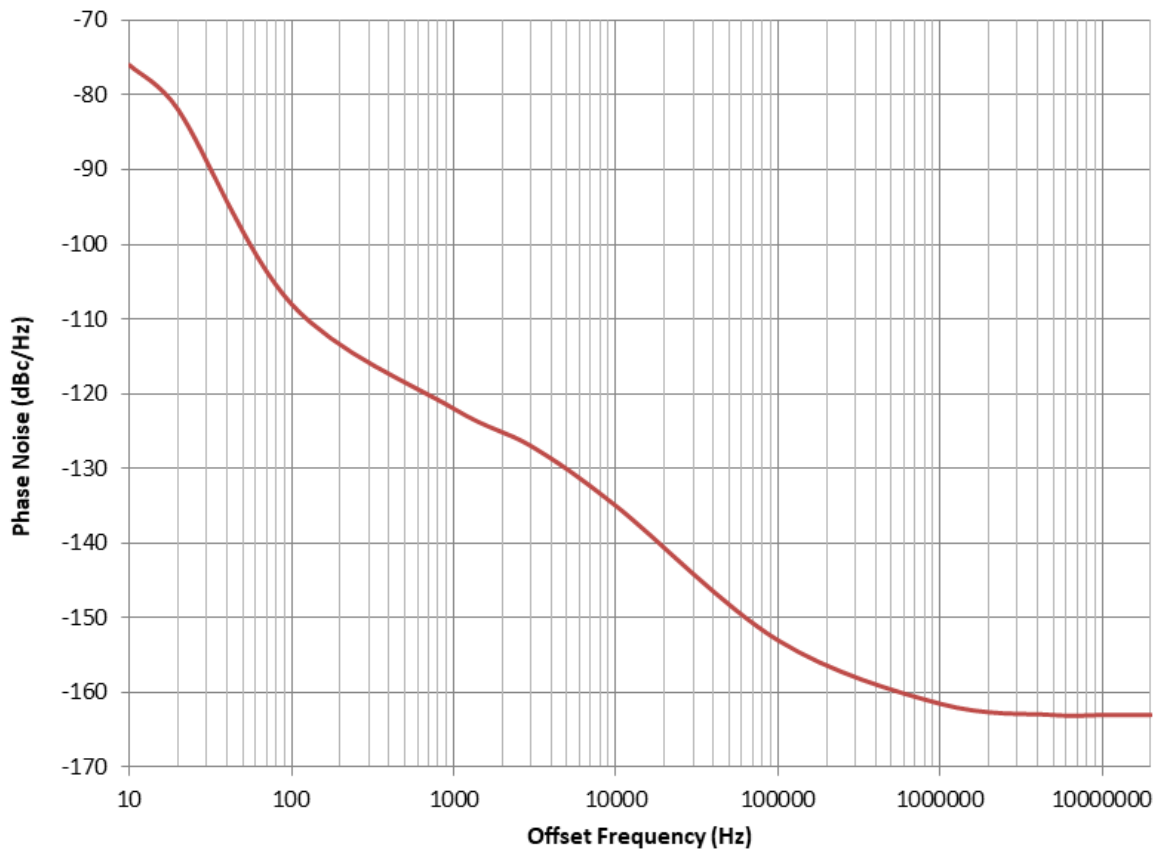

Figure 3. 156.25-MHz Output Phase Noise From LMK05318 With DPLL BW of 10 Hz, TCXO of 19.2 MHz and Reference Input of 25 MHz
- The DPLL with a loop bandwidth of less than 10 Hz can be used to clean wander on the reference input clock when used with a TCXO or OCXO as reference to the APLLs. With a loop bandwidth of greater than 10 Hz, the reference input clock jitter can be cleaned with an XO as reference to the APLLs. The advantage of this configuration is the ability to clean excessive wander or low-frequency noise present on the reference input clock. In addition, if there is a phase noise requirement for the low offset frequencies, this mode of jitter cleaning with the DPLL provides lowest possible in-band phase noise. In this mode, APLL2 can also be utilized to generate free-run clocks with low jitter or can be locked to the divided clock from APLL1 to generate a second frequency domain with low jitter as per the application needs. Figure 3 shows the phase noise plot for a 156.25-MHz output from the LMK05318 that is locked to a dirty reference input clock of 25 MHz with a DPLL loop bandwidth of 10 Hz and TCXO frequency of 19.2 MHz.